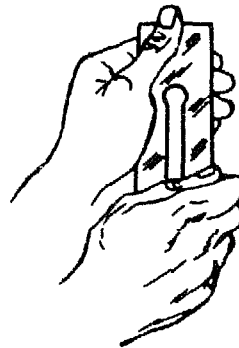

Fig. 5
- Grasp the tool so that your first finger is against the work rest; this will enable you to replace the tool in the proper position after removing it for inspection or to dip it in water (Fig. 5).